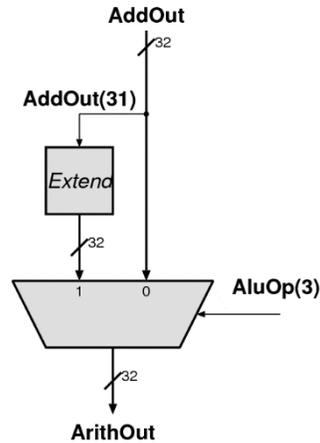

Figure 3. A possible organization to implement slt
There is one more thing left, depending on the AluOp(3) we could select whether we take only the most significant bit (logic-1, **sft** instruction), or we take the output as it is. This part can be seen in Figure 3.